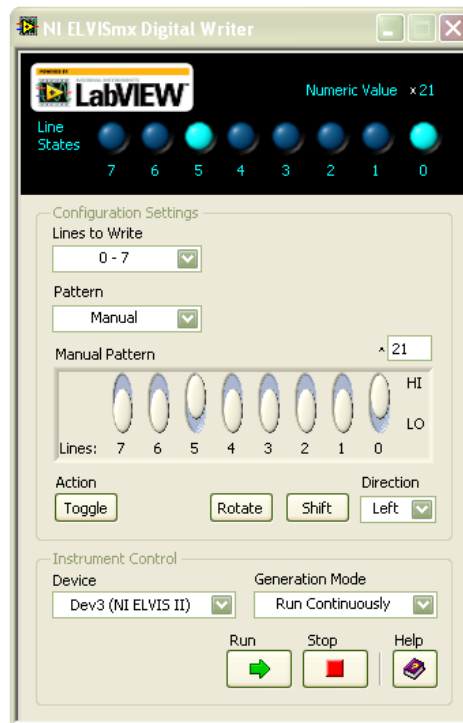

Figure 7. Digital Writer for Testing LEDs
- Set the **Generation Mode** to **(Run Continuous)** and **Pattern** to **(Manual)**, as shown in Figure 7.